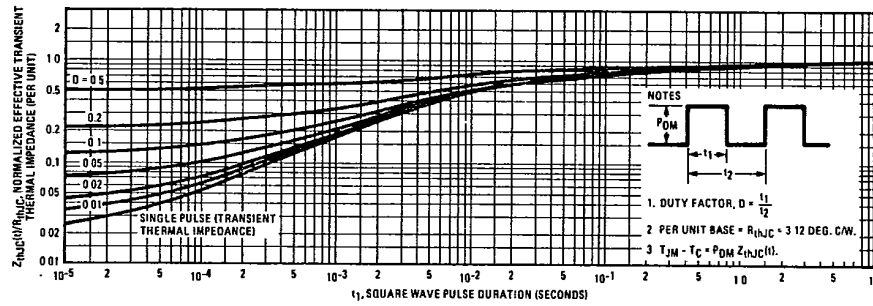

Fig. 5 - Maximum Effective Transient Thermal Impedance, Junction-to-Case Vs. Pulse Duration
① TJ = 25 $^\circ$ C to 150 $^\circ$ C. ② Pulse Test: Pulse width < 300 $\mu$ s, Duty Cycle < 2%. ③ Repetitive Rating: Pulse width limited by max. junction temperature. See Transient Thermal Impedance Curve (Fig. 5).